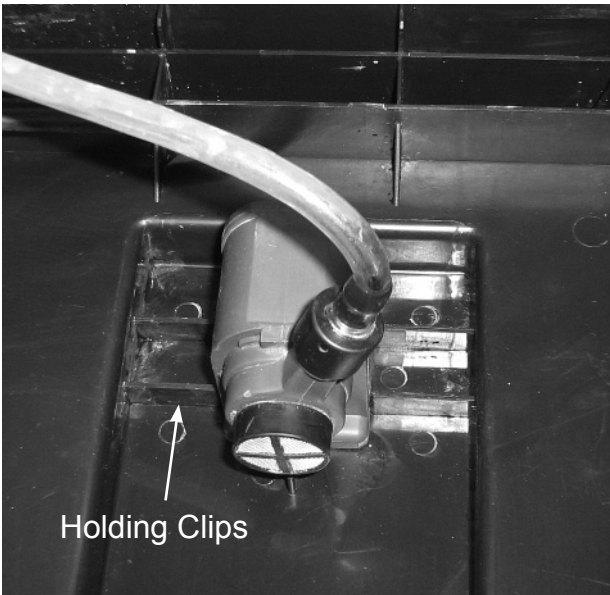

Fig. 2
5. **Be sure the water pump (A25) is properly installed within its holding clips** (see Fig. 2). Run the water hose from the pump discharge to the Blade Cover (A30) and plug the pump power cable into an outlet. The water from the pump can now keep the blade wet for proper cooling.